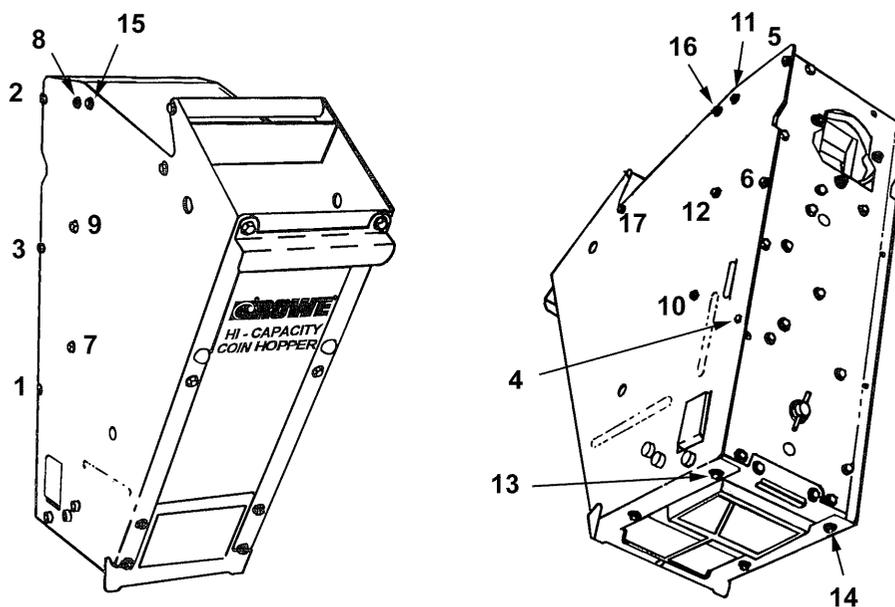

Figure 3-4C
- Reassemble the hopper (when finished cleaning) by replacing the back chain plate assembly and starting all screws removed. Once all screws have been started, they may then be tightened. The screws must be tightened in sequence as shown in *Figure 3-4C*.